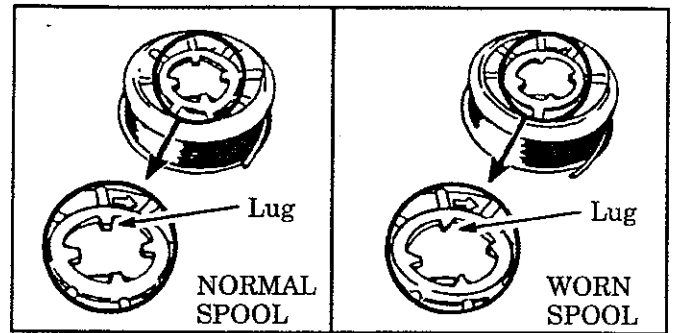

Figure 23
- Replace the spool when the square corners on the lugs are rounded off, reduced in size, or broken off. Figure 23.